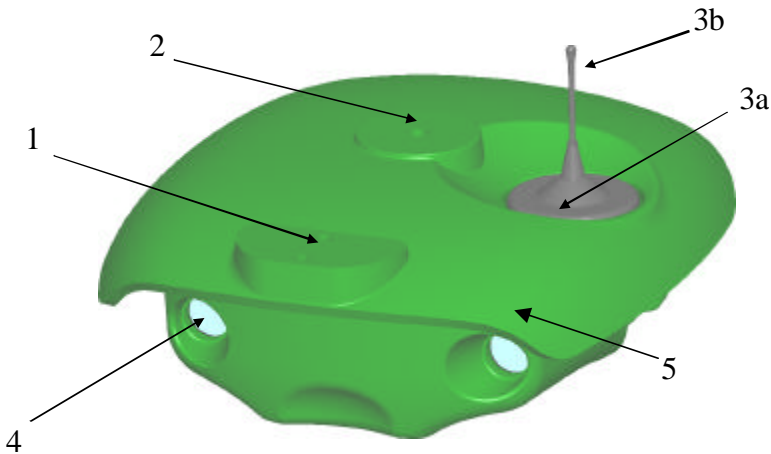
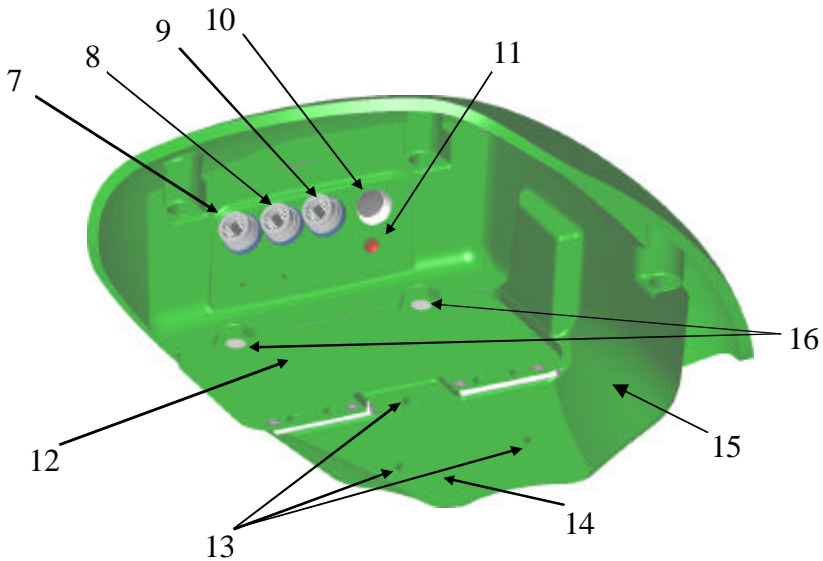

Figure 4– Front view of TIRTL receiver.
Figure 6– Rear of TIRTL receiver.
TIRTL transmitter and receiver are similar in appearance. Figure 4 to Figure 6 and Table 1 detail the external features of the TIRTL receiver unit. An identifiable external difference between the transmitter and receiver is Comm Port B is not present on the transmitter unit (item 9, Figure 6).